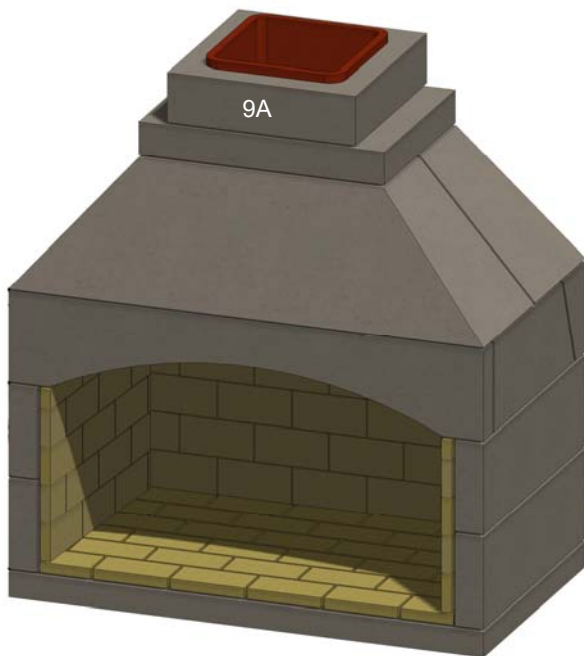

Figure 21. Chimney Flue
N. Install the first Stone Age masonry chimney section (9A), with the tile extending upward. Fill the void on the bottom with mortar to create a smooth transition. See Figure 21.